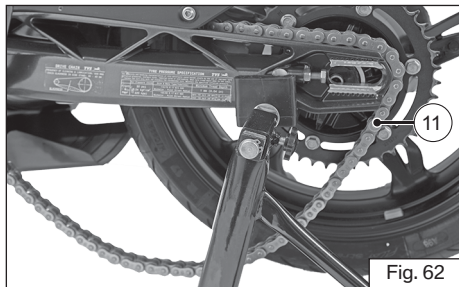

Fig. 62
- ◆ Roll the rear wheel forward as far as possible and disengage the chain (11) from the sprocket (ref. Fig. 62).